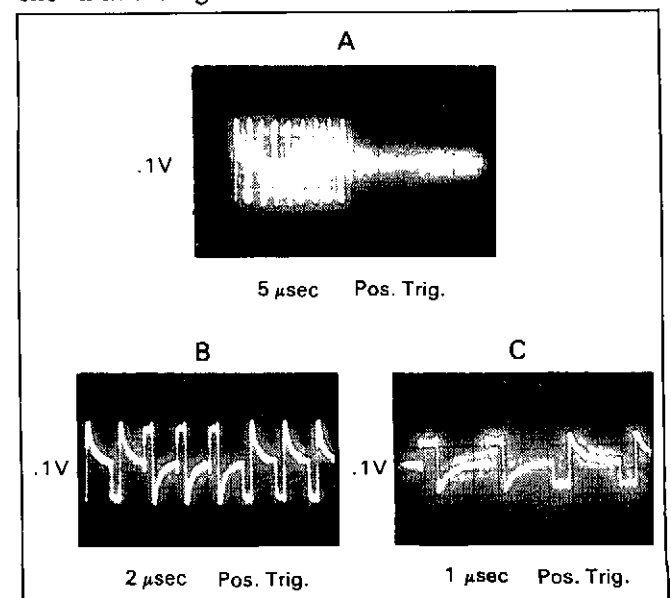

Figure 8-A-7. Transmitter Output.
b. Connect the vertical input of an oscilloscope to the core of transformer A3T1. Using the scope set-up information in Figure 8-A-7A, check for the waveform shown in the figure.